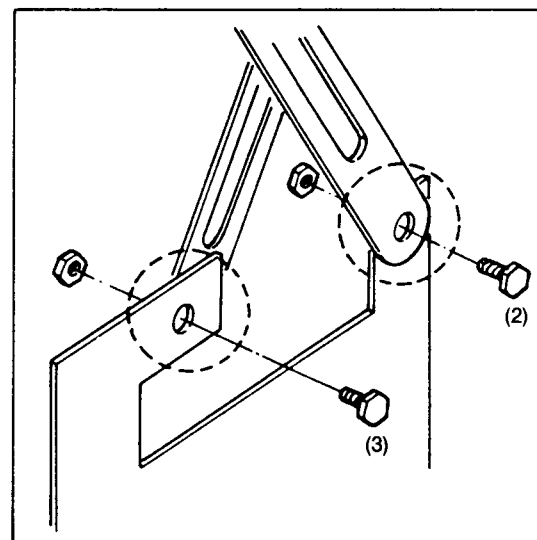

Fig. S6
2. Mount the Camera Holder Arm (B) to the Camera Holder (D) by screws (2) and (3) as shown in Fig. S6.